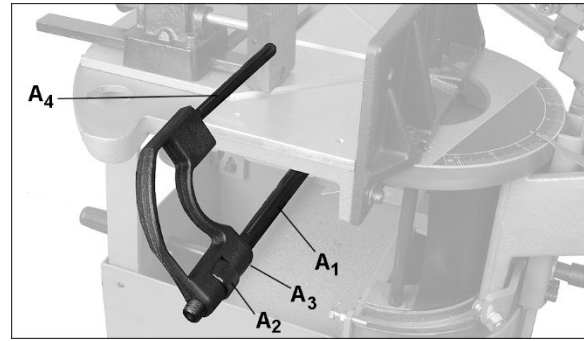

Figure 5-2: installing work stop
3. Install work stop rod (A1, Figure 5-2) into hole beneath table and tighten set screw. Install work stop onto rod threads by rotating collar (A2). Secure position of work stop by tightening set screw (A3) onto rod flat.